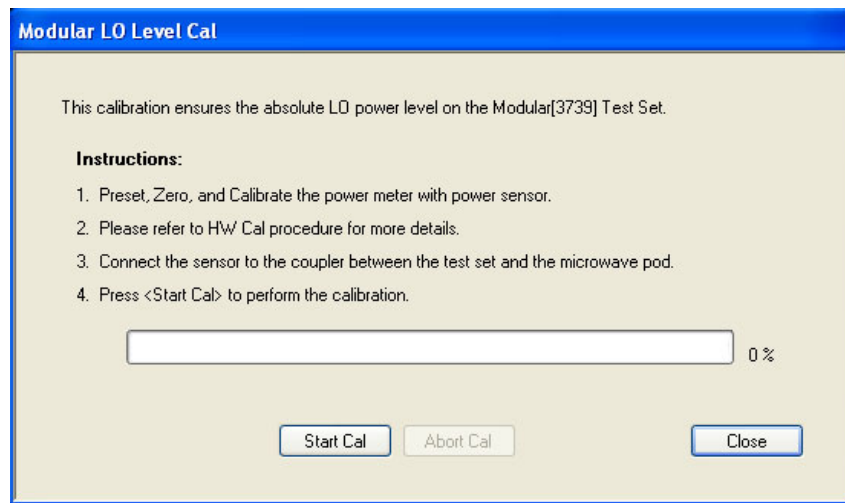

Figure 5-6. Modular LO LEVEL CAL Dialog Box
17. Select BB/mmWave [3739] LO Level Cal and the Modular LO Level Cal dialog box as shown in Figure 5-6 appears.